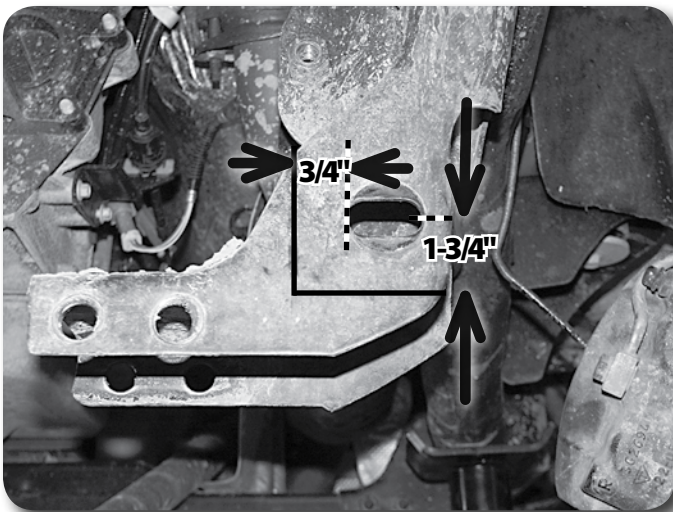

Figure 17
31. The driver's side rear lower control arm frame pocket must be modified to provide clearance for the differential in its relocated position. On the front side measure from the inside edge of the control arm slot $\frac{3}{4}$ " and mark (Figure 17). Make a vertical cut line at the mark.